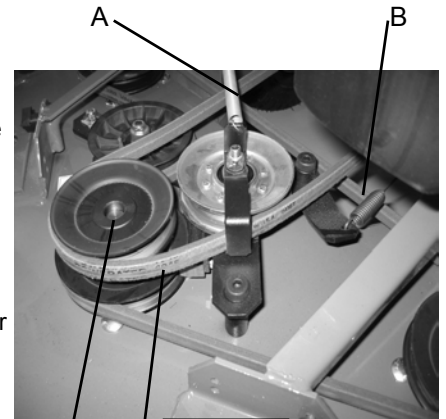
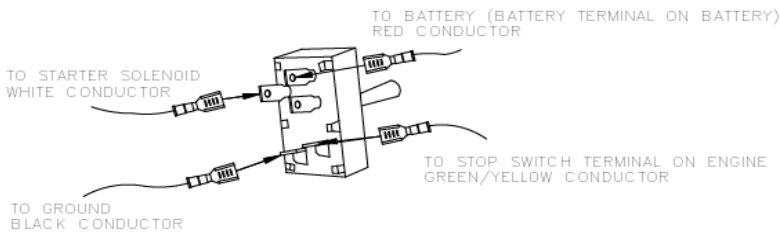

Fig. 17-10
Fig. 17-11
3. Remove the brake spring (A) and control cable spring (B) (see figure 17-10).
4. Remove the blade drive belt (C) from the drive pulley (D).
5. Using a 3/8" wrench and 5/32" allen wrench, remove the nuts from the #10 puck retaining bolts (see figure 17-11).
Note: When the blade drive lever is depressed, the brake puck should not rub on the center pulley, the belt should be under tension, and not rub on the belt finger (see figure 17-10).